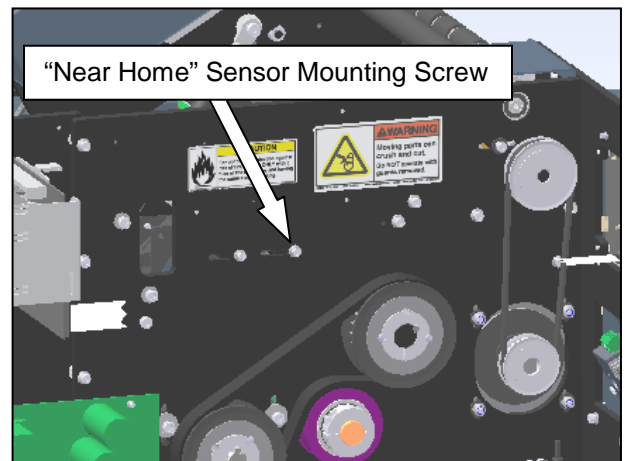

Figure 3-364. "Near Home" Sensor Mounting Screw
9. Follow the sensor cable back through the machine, removing wire ties as necessary to free the sensor from the machine. Unplug the sensor from the 6-position junction box. The left stripper plate sensor is plugged into receptacle 5 (Figure 3-364).